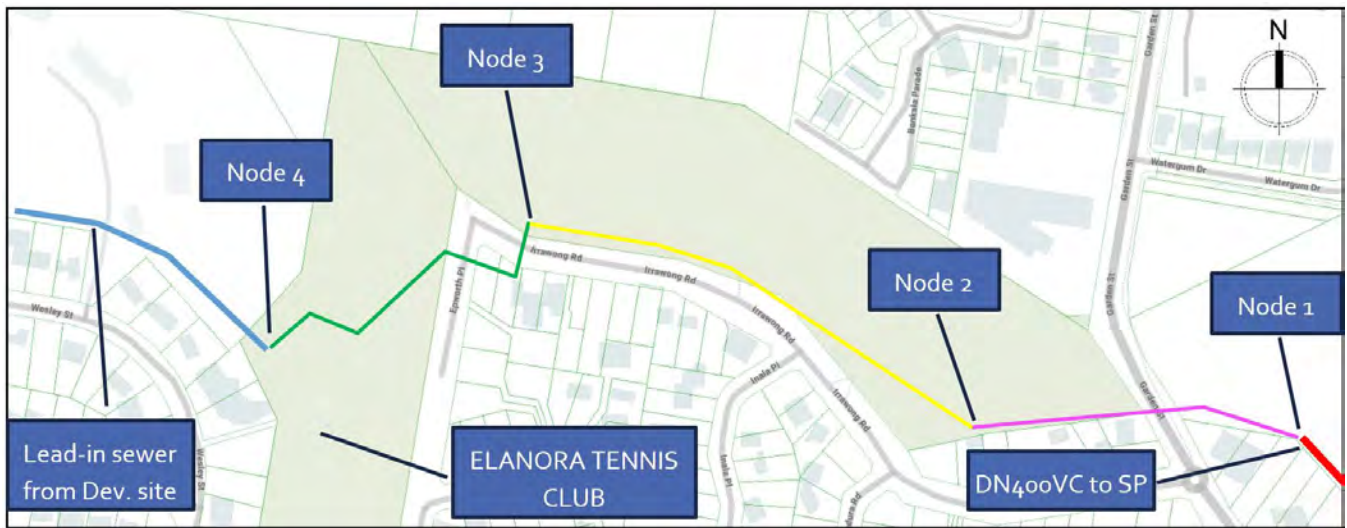

Figure 4: Sewer analysis route, not to scale. Refer to Appendix A for detailed Sewer information.
A Desktop analysis was conducted to ensure the existing sewer is adequate to service the subject development, over four (4) crucial nodes between the DN400 VC connection point (Node 1) and the DN225 VC start (Node 4). It is assumed that the DN400 VC sewer has enough capacity to service existing properties and the subject development, this will be subject to SWC confirmation. These nodes have been selected as they capture their respective catchments. These nodes (and respective catchments) are shown in the figure 4 and shown in detail within Appendix B. Node 5 is the Development low point.